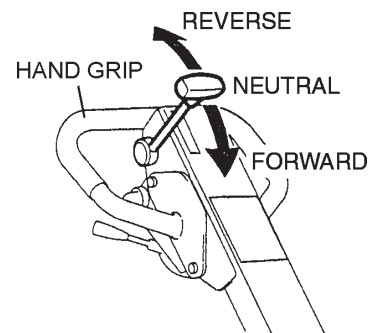

**Figure 13. Throttle Lever ((Fast))**
1. Grasp the compactor's hand grip (Figure 13), and move the engine throttle lever (Figure 13) quickly to the **fast** position.
4. To make the compactor move in the reverse direction pull the travel lever (Figure 13) backwards.